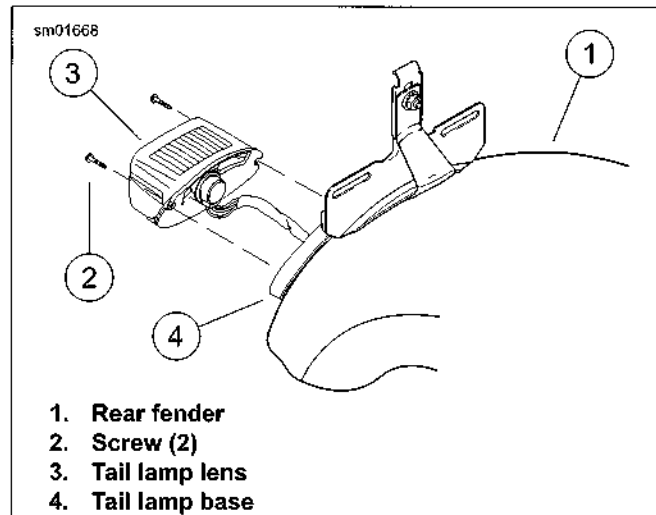

Figure 6-67. Tail Lamp Lens: XL 883L/R
3. See Figure 6-67. Remove two screws (2) and tail lamp lens (3) from tail lamp base (4).